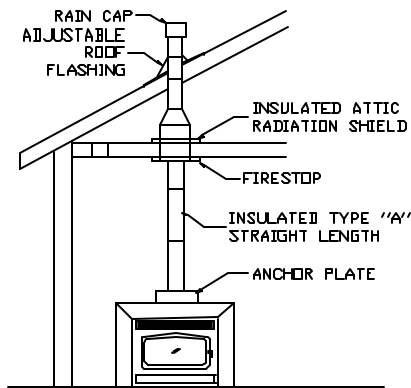

Figure 12 : Direct installation
- Many configurations are possible, the most frequent ones are illustrated in figures 12, 13, and 14.